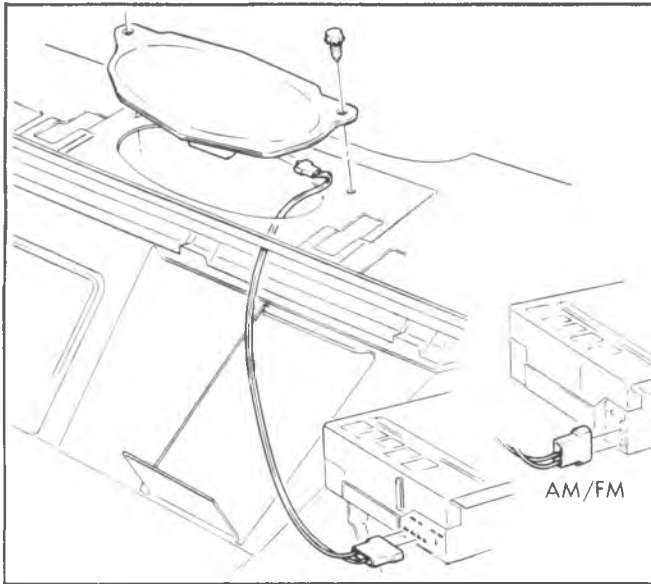

Fig. 8B-3--Radio Front Speaker (C-K Series)
**FRONT SPEAKER****C-K Models****Replacement (Fig. 8B-3)**